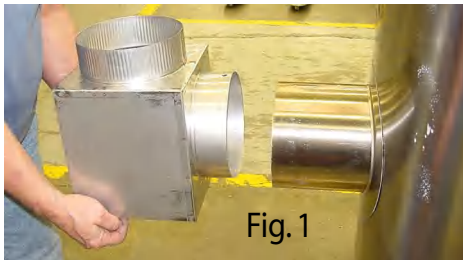

Fig. 1
4. The draft diverter shipped with the kettle is the correct height and shape to give maximum performance. Install the draft diverter as shown on Figures 1 and 2 above. Securely fasten the screw to attach draft directly. Do not change the diverter in any way.